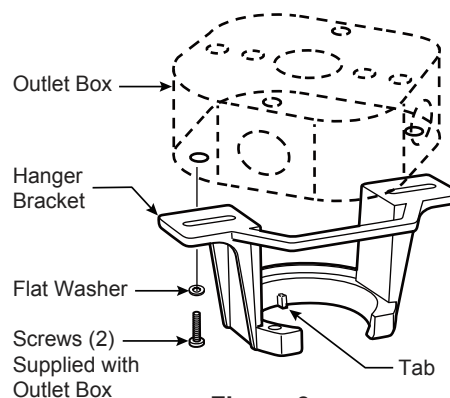

Figure 3
Your new ceiling fan will require a grounded electrical supply line of 120 volts AC, 60 HZ, 15 Amp Circuit. Electrical code requires use of a fan-rated outlet box to support the extra weight and motion associated with a ceiling fan. A fan-rated box will be labeled as such and typically supports up to a 70lb ceiling fan. Fan-Rated Outlet Boxes vary in ratings and design. Ensure the ratings of your ceiling fan outlet box meet the requirements for the ceiling fan being installed. Figure 1, Figure 2 and Figure 3 depicts different structural configurations that may be used for mounting the outlet box.
Deep box with brace (Figure 3)
3. Loosen the two set screws and locking nuts in the downrod support of the motor housing assembly. Route the black, white and blue wires through the downrod. (Figure 3)
1. Securely attach the hanger bracket to the outlet box (not included) using the outlet box screws and washers supplied with the outlet box. (Figure 3)
2. Slide the receiver into the hanger bracket before wiring as shown in figure 3.
- ☐ 3. To make fan operational, install 23A/12V battery (included) in hand-held remote transmitter, with fan power off. Then follow the remote code setting process. (If not used for long periods of time, remove battery to prevent damage to transmitter). Store the remote away from excessive heat or humidity. (Figure 3)